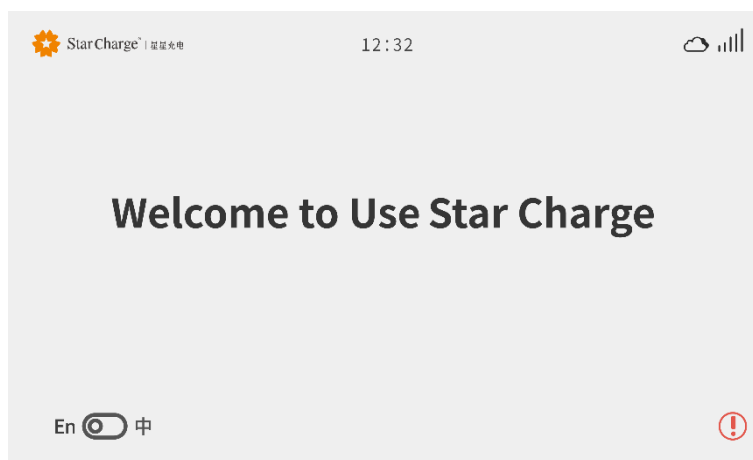

Figure 3-1 Main charging interface
Step 1 Click anywhere on the main interface of the touch screen to enter the next step, as shown in Figure 3-1.